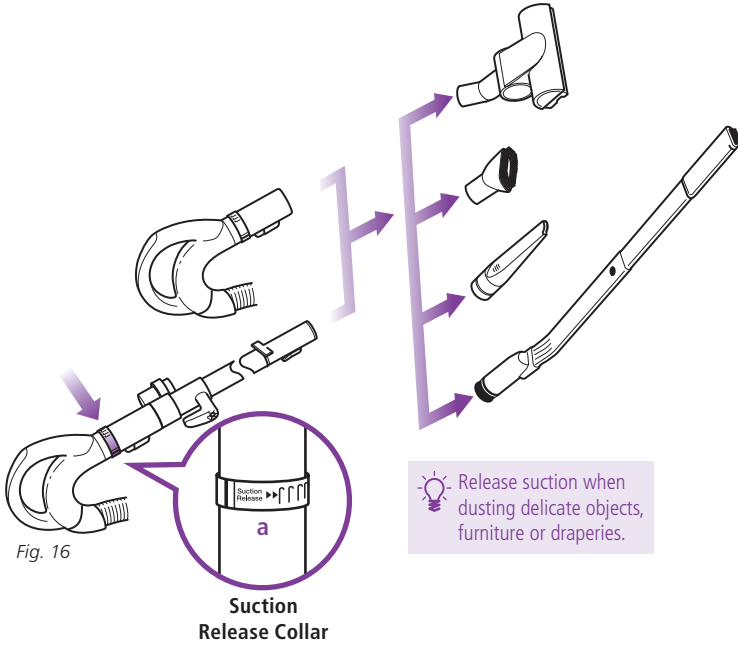

Fig. 16
- 2 Attach desired accessory onto the end of either the extension wand or the handle. (Fig. 16)
- 3 **Your vacuum has tremendous suction power. Adjust the amount of suction with the suction release on the handle. Open the valve (a) by rotating the collar 90° counterclockwise for low suction when doing light jobs such as drapes or fine surfaces. Close the valve (a) by rotating the collar clockwise 90° for high suction and when using the hand held power brush. (Fig. 16)**